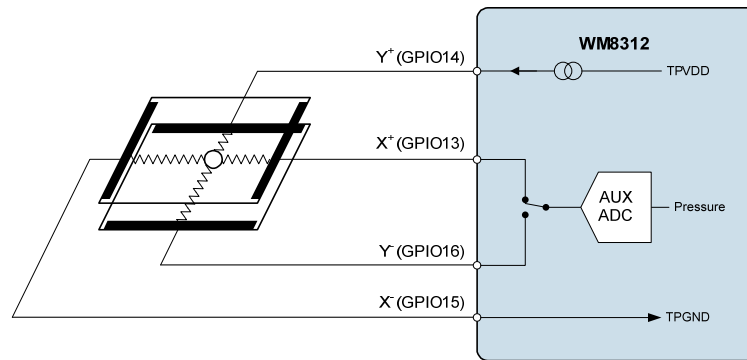

Figure 31 Z-axis (Pressure) Measurement on 4-wire Touch Panel
The configuration is illustrated in Figure 31. In this example, a constant current flows from the Top (Y^+) connection to the Left (X) connection. The Right (X^+) and Bottom (Y) points are measured in turn, and the difference, $V_X - V_Y$ is equal to $I_P \times R_C$, where I_P is the current applied and R_C is the resistance between the plates. The smaller the measured resistance, the greater the pressure being applied.